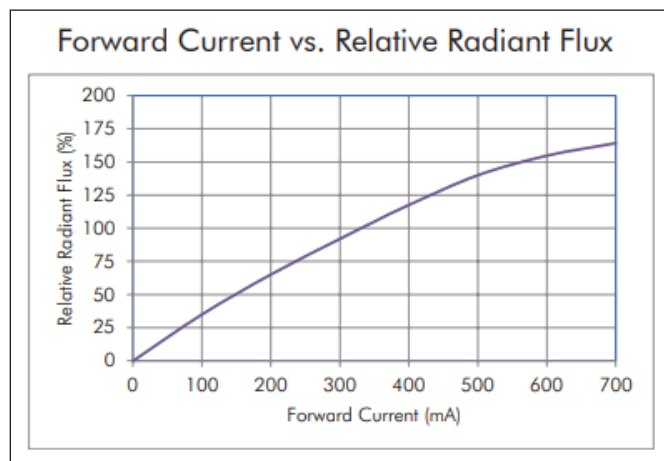

Figure 2: Relative radiant flux as a function of the driving current for a UV LED
- B. Driving Current: The optical output of an LED is directly proportional to the driving current chosen (as shown in Figure 2 below). This would be the minimum output current required from the power supply (in the case of a single LED product) and would determine the intensity of the light. Hence, this may be varied on the basis of the application.